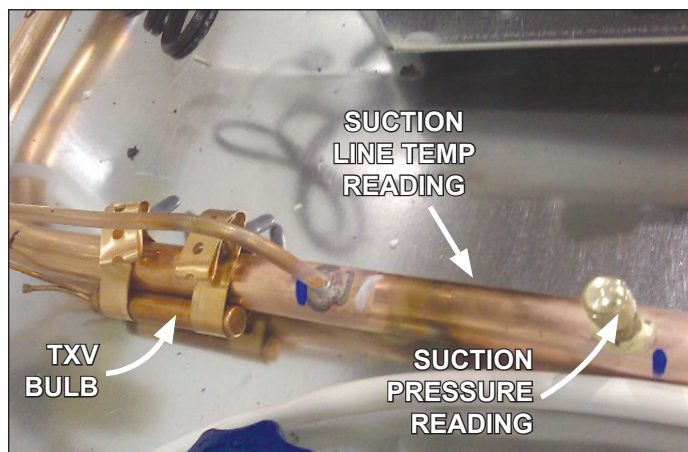

Fig. 20 Obtain pressure and temperature readings
1. Obtain suction pressure from the access port. Obtain the suction line temperature from the area near the TXV bulb at the outlet of the evaporator coil (Fig. 20).